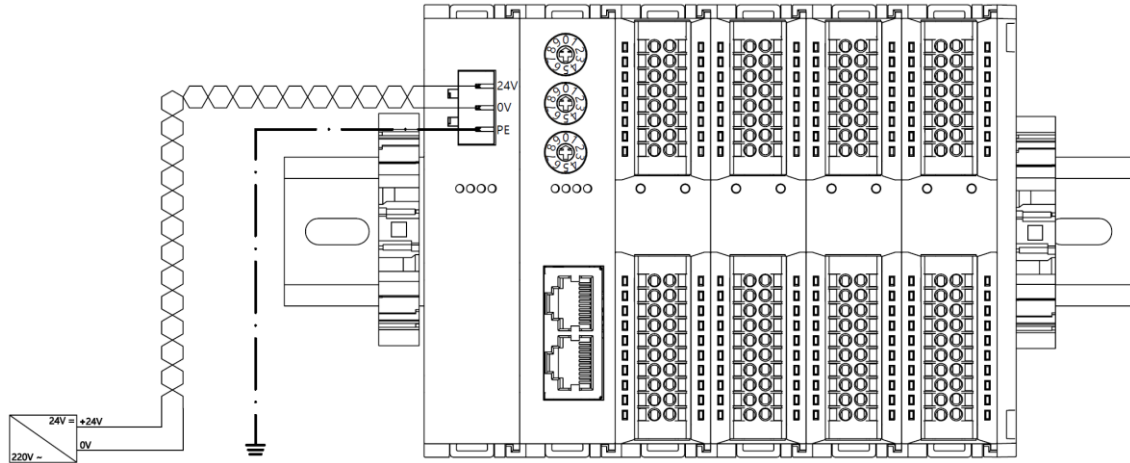

Figure 6-1
- Figure 6-1: Wiring of coupler, IO modules, and power module in sequence
- Figure 6-1: Wiring of coupler, IO modules, power module, IO modules, and power module in sequence